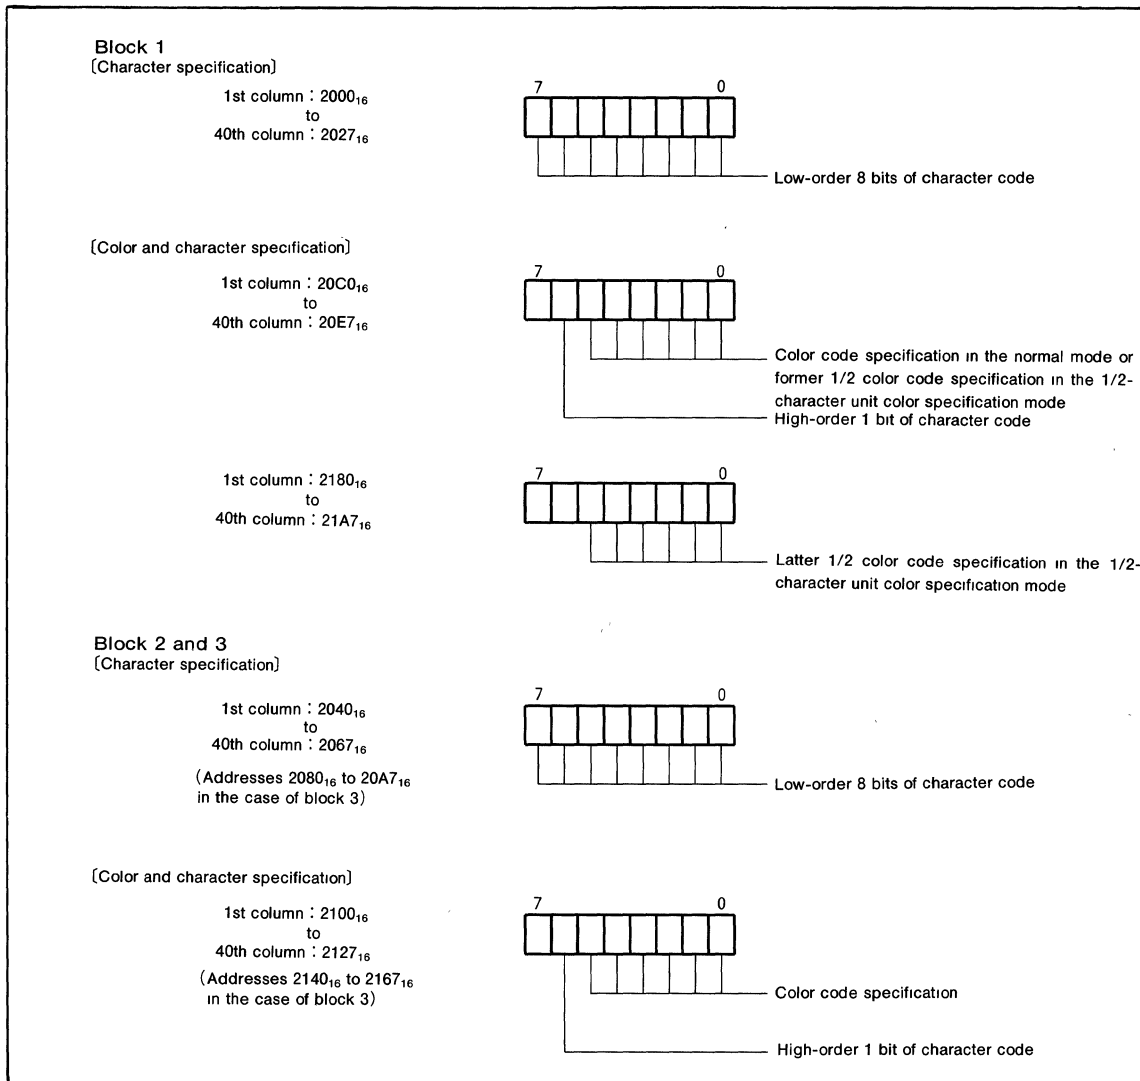

Fig. 31 Structure of CRT display RAM
② CRT display RAM (addresses  $2000_{16}$  to  $27FF_{16}$ )
The CRT display RAM is allocated at addresses  $2000_{16}$  to  $27FF_{16}$ , and is divided into a display character code specification part and a display color code specification part for each block. The contents of this area are shown in Table 4. For example, to display one character at the first character position (the left edge) of block 1, write the character code to bit 6 of address  $20C0_{16}$  and to address  $2000_{16}$ , and write the color code to the lowermost 6 bits (bits 0 to 5) of address  $20C0_{16}$ . For details of the color codes, see section (4) Color codes. The structure of the CRT display RAM is shown in Fig. 31.